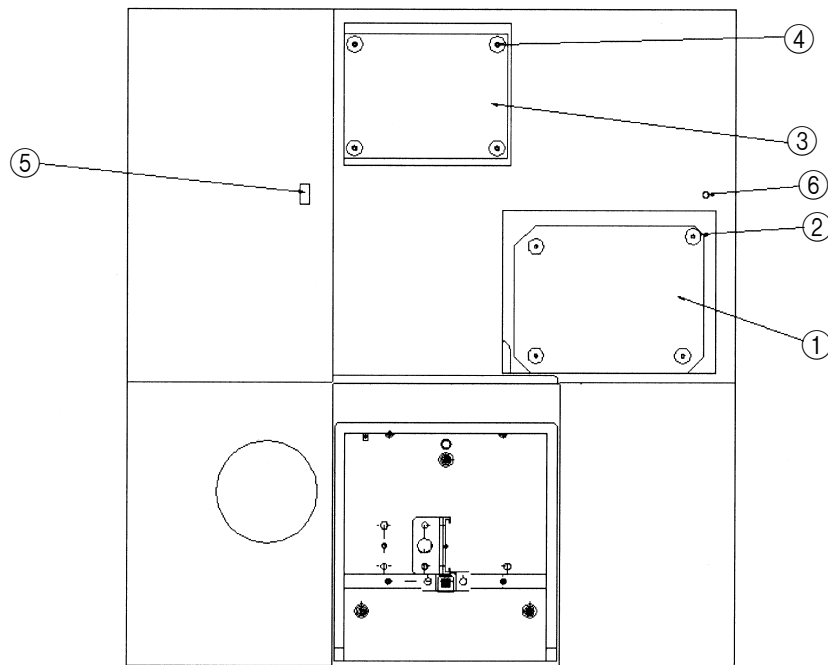

Fig. 4.3 Top Cover is opened
- 2) When the top cover is removed, the lid for replacing the light source ((3) in the figure 4.3) can be seen. Remove the four screws ((4) in the figure 4.3) which fix this lid, then open the cover.